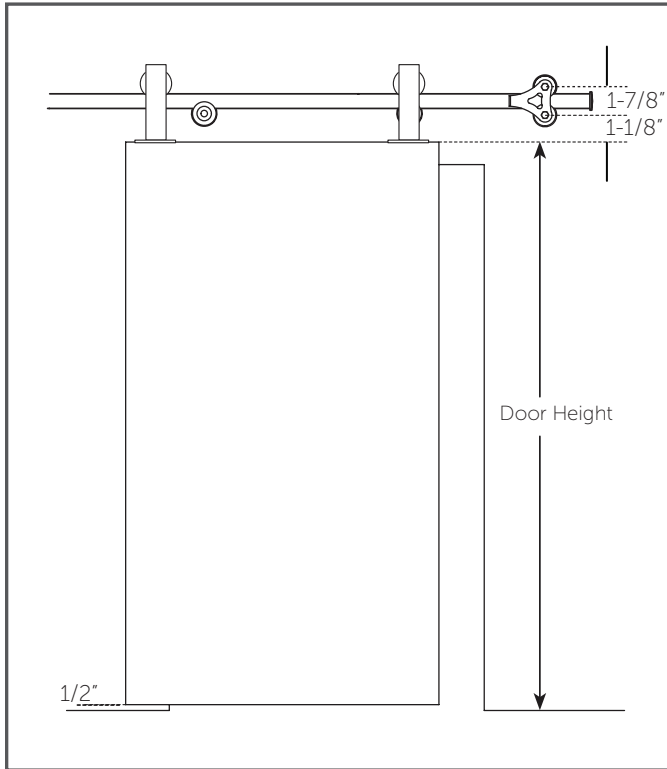

Figure 1
1. To determine where the track should be installed, first measure the height of the door, then add 1-5/8" to the door length. 1/2" will be for the clearance between the bottom edge of the door and the floor. 1-1/8" will be from the top edge of the door to the center of the lower spacer. (Figure 1).
3. Measure 1-7/8" above the line drawn in step 1. Using a level and a pencil, make a line above the first line the same length as the track (Figure 1).